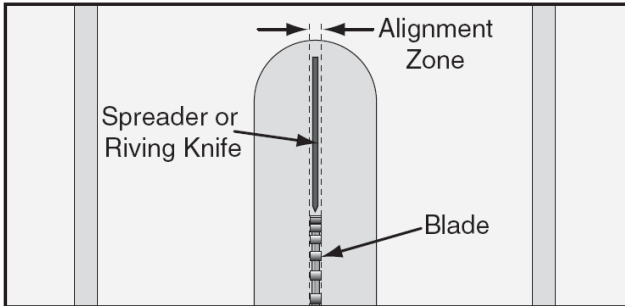

Fig. 16
4. Place a straightedge against the blade and the spreader. When properly aligned, the spreader/riving knife will be in the "alignment zone," refer to **Fig. 16**, and will be parallel with the blade. If it is not aligned properly, please adjust according to Section 6.5 "Aligning Blade Guard Splitter or Riving Knife with the Blade".